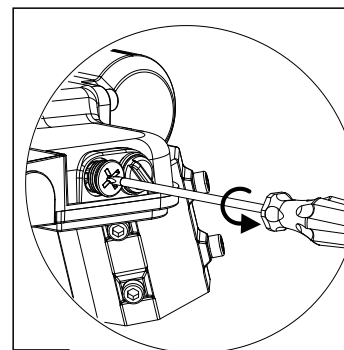

Fig. 6
1. Remove the cover by screwdriver (Fig.6).